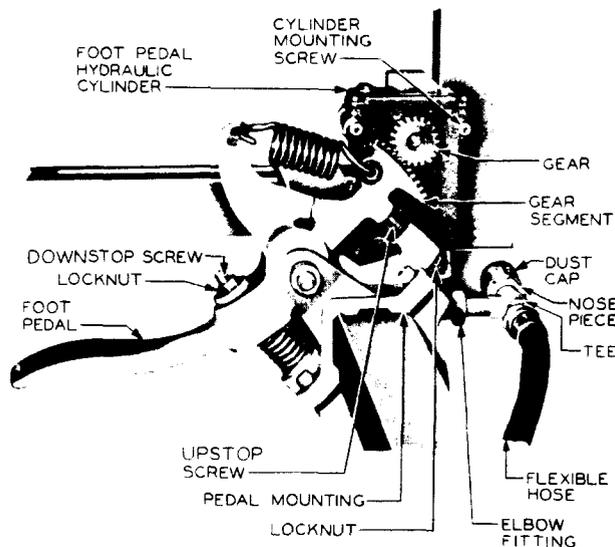

Fig. 29 – Foot-Pedal Assembly (drip pan and covers removed) — 659A and 659D Tools Only
3.48 Hydraulic Cylinder: Fig. 29
(3) Apply a small amount of KS-6824 sealing compound to the threads of the fitting in the new cylinder. Exercise care to keep the compound away from the end of the fitting to avoid getting it into the hydraulic system. Connect the cylinder fitting to the elbow by turning the cylinder. Then, securely tighten the connections, positioning the elbow so that it faces the rear of the tool as shown in Fig. 29.
3.50 Nosepiece: Fig. 29
(1) Before replacing the nosepiece, place the drip pan below the nosepiece to catch the oil which will drain when the connection is broken. Remove the nosepiece dust cap using the 3-inch C screwdriver. While holding the fitting in the tee with the R-1542 wrench, remove the nosepiece using a second R-1542 wrench.
(2) Apply a small amount of KS-6824 sealing compound to the threads of the fitting in the tee on which the nosepiece is mounted. Exercise care to keep the compound away from the end of the threads to avoid getting the compound into the hydraulic system. Securely mount the new nosepiece and remount the dust cap.
3.51 Flexible Hose: Fig. 29